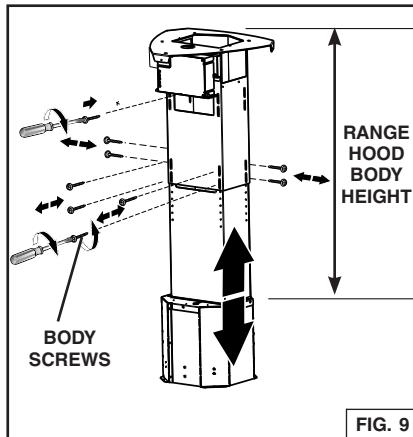

FIG. 9
2. Loosen the body screws (Fig. 9.) and adjust the Range Hood Body to the desired length as noted in the table on page 10.